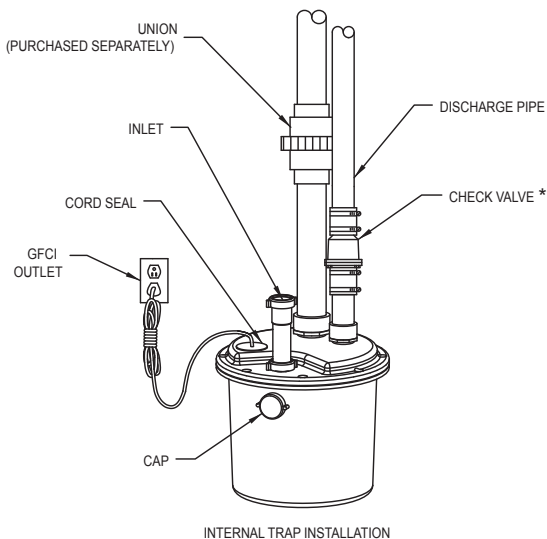

Figure 5.3A
**NOTE:** Pull excess cordage through the opening and install the cord seal as shown in Figure 5.3A. Insure o-ring is in the cap before installation.